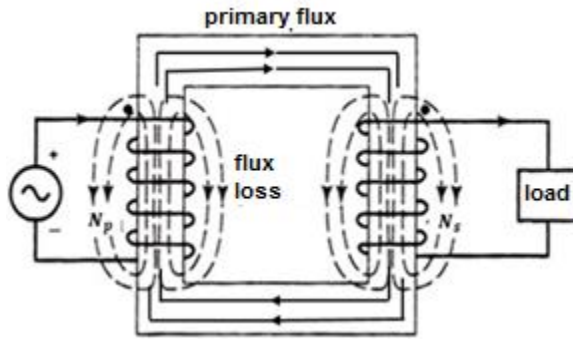

Figure 6: Flux leakage in the coils of a practical transformer
- There is a leakage of magnetic flux in the coils of the transformer, for example, a small part of the flux passes through the air rather than the core of the coils (see Figure 6). This variability of leaking flux creates magnetic inductance. We will denote with X_p, X_s the resultant reactance caused by the leakage of the flux in the primary and secondary coils respectively.
- Since the core material does not have infinite permeability, an electric current is required to create the main flux (Fig. 6). X_M denotes the reactance responsible for the formation of the main flux in the transformer core as a result of the current in the primary coil.